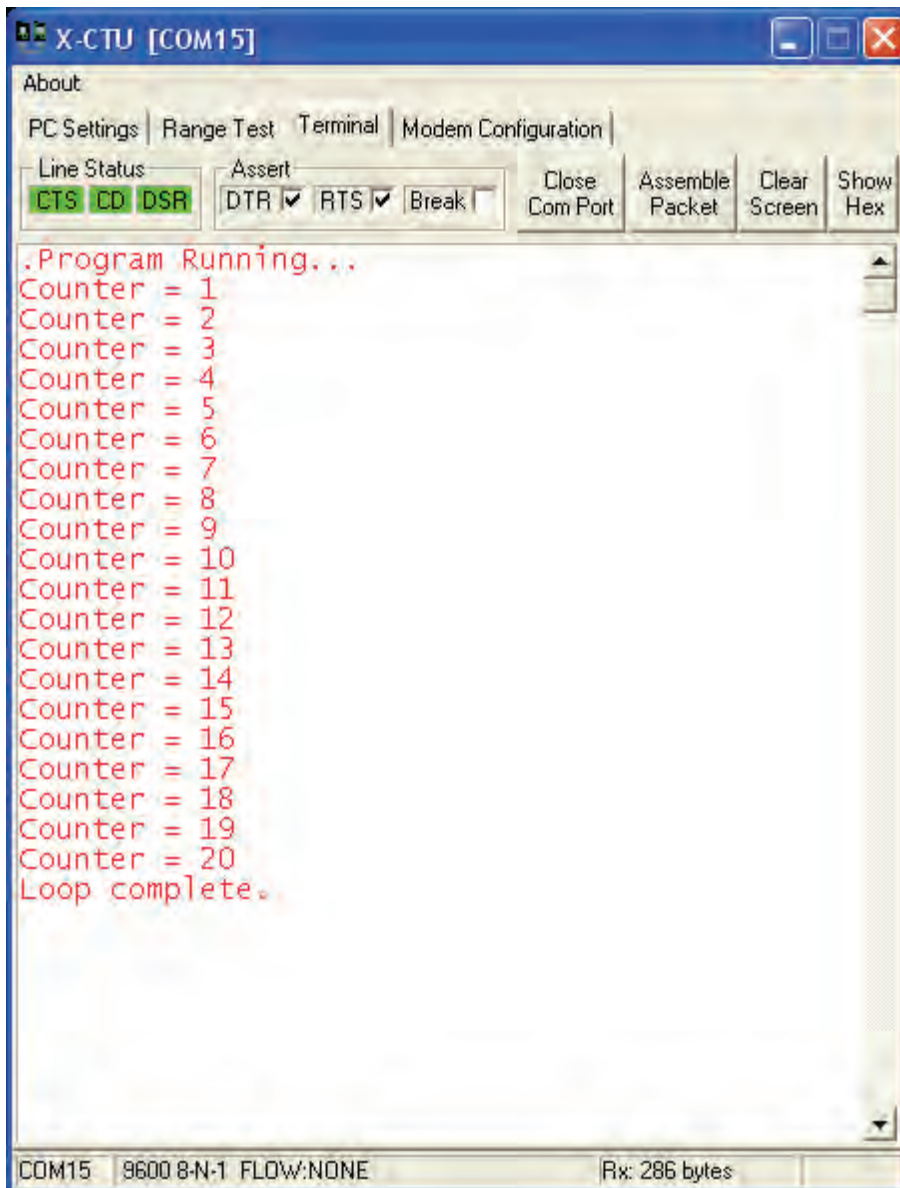

Figure 4-3: Simple Debug to Base Testing
- ✓ Monitor the received data in the Base node's terminal window as shown in Figure 4-3.